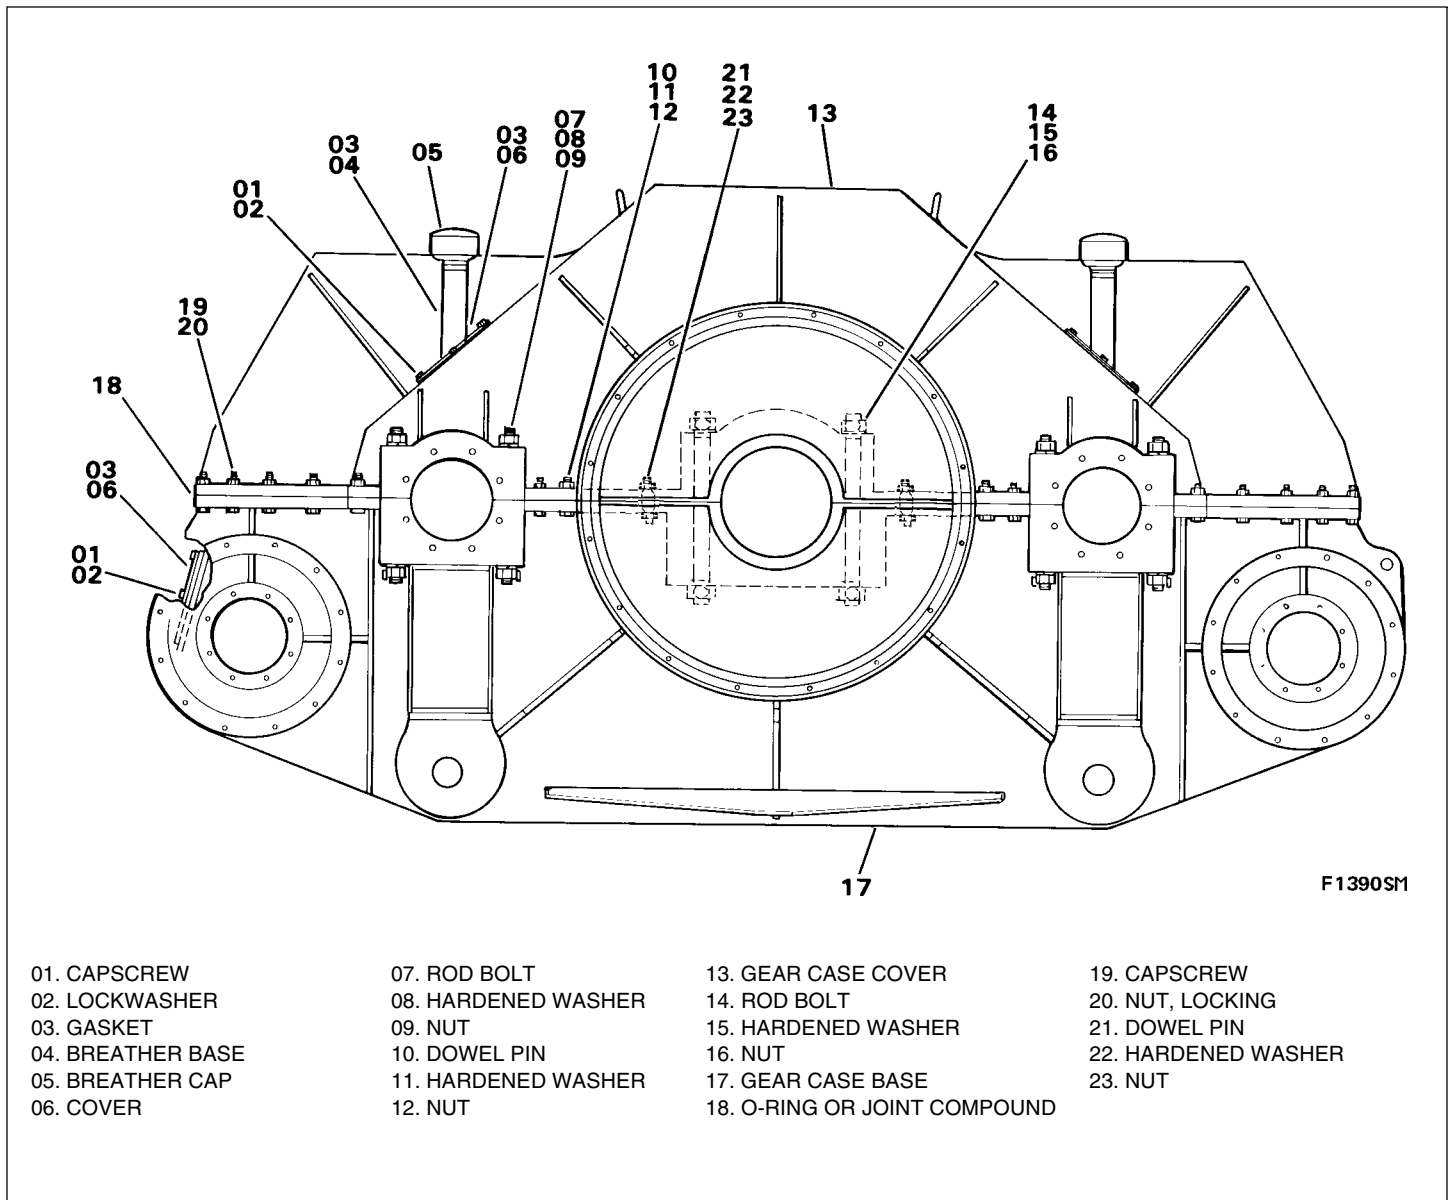
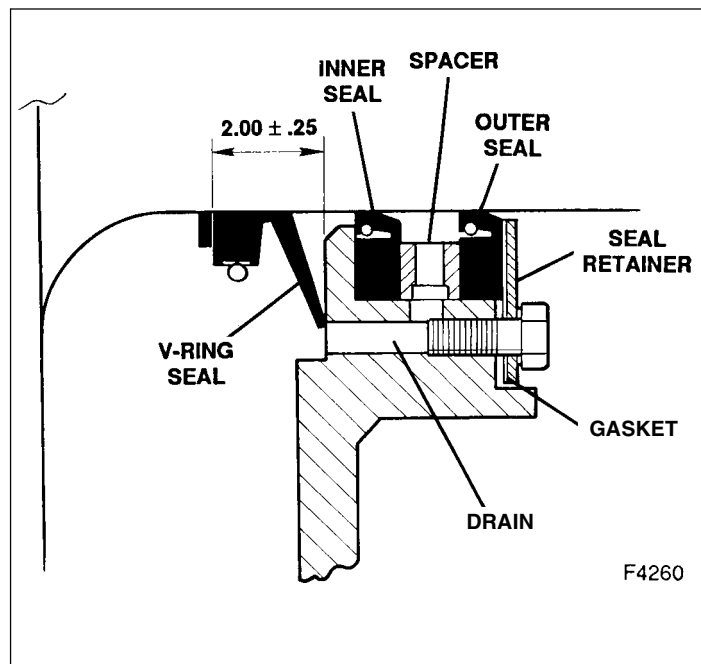

Figure 4-13. Hoist Gearcase (914J390)
Figure 4-17. Hoist Drum Seal Installation
The hoist gear case, shown in Figure 4-13, is an oil tight case that houses the hoist transmission gearing and also functions as one of the side stands for the hoist drum assembly. The gear case is fabricated of sturdy all welded construction with liberal ribbing for strength and stability. A single section gear case cover bolted to
GEARCASE COVER REMOVAL. Remove the hoist gearcase cover as follows (see Figure 4-13).
5. Refer to Figure 4-13 and remove rod bolts (14), nuts (16) and hardened washers (15) from the hoist drum shaft bearing block.
6. Remove the two bearing cap rod bolts (07), nuts (09) and hardened washers (08) from each of the intermediate shaft bearing caps.
7. Remove the hoist drum oil seal retainer ring sections and remove the oil seals from the oil seal cavity as necessary, (see Figure 4-15 and Figure 4-17).
8. Refer to Figure 4-13, and remove locking nuts (20), capscrews (19), dowel pins (10 and 21), nuts (12 and 23)
hoist gear case, proceed as follows, (see Figure 4-13 and Figure 4-14):
HOIST DRUM SHAFT REMOVAL. To remove the hoist drum shaft assembly from the hoist gear case proceed as follows, (see Figure 4-13 and Figure 4-15):
4. Insure that the lower drum oil seal retainer (Figure 4-13) and seal ring capscrews are loose if they have not been removed previously.
GENERAL. The following procedures are written on the basis that a complete disassembly of the hoist gear case has been accomplished. To assemble the hoist gear case, refer to Figure 4-13 and install the serviced major components and assemblies as described in the following procedures.
The hoist drum shaft installation procedure includes the installation procedures for the drum seals shown in Figure 4-17, except for the V-ring seal. If the V-ring seal requires replacement, consult your local P&H service representative for more information.
As the hoist drum is being lowered into the gear case, insure the oil seals are aligned properly with the seal cavities in the hoist gear case, (see Figure 4-17). Make sure the lip of the V-ring seal is not pinched or damaged.
The hoist drum shaft installation procedure may have included the installation of the lower half of the seal and retainer, and the drum seals shown in Figure 4-13 and Figure 4-17. If these seals were partially installed during drum installation, the upper half of the seal retainer should be installed in the cover as described in step 4 and then the cover installed over the drum and seals, as described in step 5.